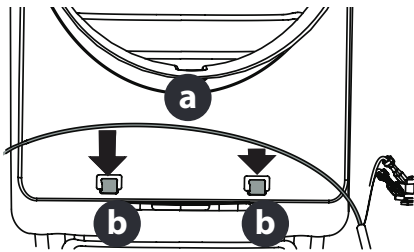

Figure 12
4. Secure the headlight harness (a) into the two guides (b) on the front of the plenum (Figure 12).